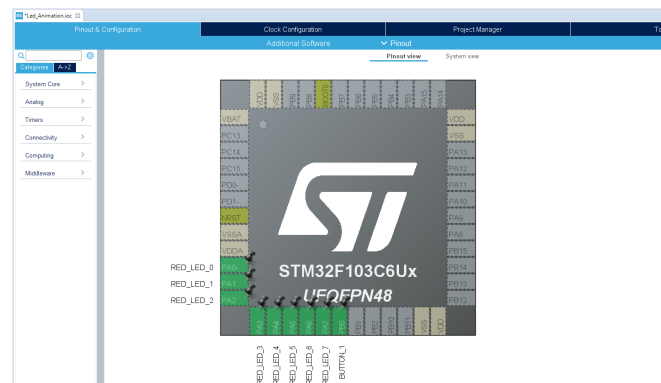

Figure 1.6: Input Output Setting
- PB0 as an input port pin as shown in Figure 1.6,
- PA0-PA7 as output port pins as shown in Figure 1.6